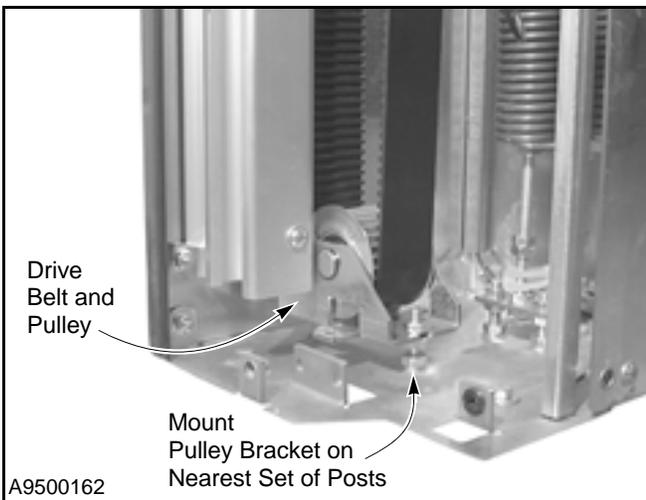

Figure 38
3. The nearest pair of mounting posts on the base plate is used for mounting the guide pulley. Remove the two upper nuts from this set of posts to make it possible to place the pulley. (See Figure 38.)